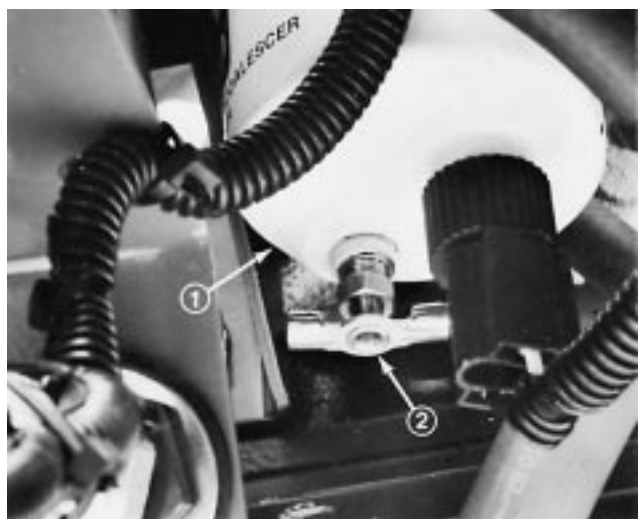

Figure 38
1. Locate fuel filter/water separator on lower left side of engine and drain daily (Fig. 38).